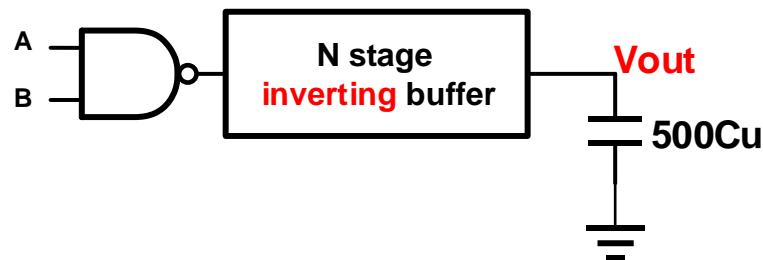

Figure 8. 2-input NAND with N-stage **inverting** buffer
A 2-input static CMOS NAND gate with N-stage **inverting** buffer to drive the capacitor,  $500C_u$ , as shown in Fig.8.
**3A** : Consider the circuit in Fig.8. How many stages will give the **minimum delay**, and how should the stages be sized? Furthermore, assume we **neglect the diffusion capacitances**. If the delay constraint is **between  $30\tau$  and  $29\tau$** , what N should be set to give the **lowest power**, and how should the stages be sized? How much dynamic power does it consume?